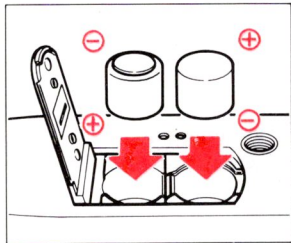

Fig. 11
2. Place batteries in the battery compartment according to (+) and (-) shown inside the battery compartment and close the compartment cover. (Fig. 11)